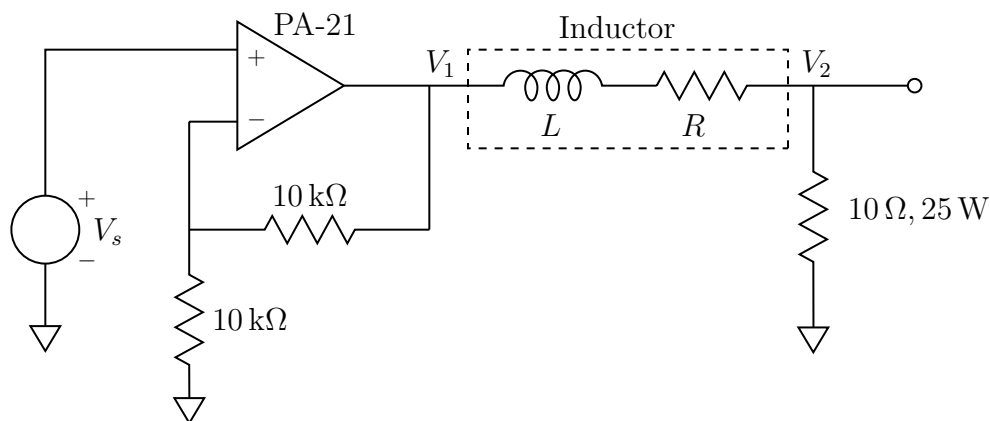

Figure 3: Amplifier with inductive load.
2. **Inductive load, voltage drive:** Now we will use the amplifier to drive an inductive load as shown in Fig. 3. Each station has an inductor which has been constructed from a small power transformer. Please keep each device at its original station. Do not move these around between stations! For the greatest consistency, you may want to use the same station for all your critical tests, but since the inductors are nominally identical, you are free to use other stations and assume the inductors are matched. The purpose of this portion of the lab is to develop an electrical model for the inductor which can be used to design a closed-loop current-controlled system. Specifically, in this section, we would like to measure the transfer
As a start, use the multimeter to measure the coil resistance of your inductor. Also measure the resistance of the 25W power resistor you used in the previous section. These resistances become part of a model for the coil shown in Fig. 3. To complete the model, we need to measure the coil inductance. This can be done by measuring the step response from  $V_1$  to  $V_2$ . The time constant of this response, in combination with the resistances measured earlier yields an estimate of the coil inductance  $L$ . Measure the step response for a 0.1 A step on top of a 0 A bias and on top of a 0.5 A bias. Use the DC offset control on the signal generator to set the bias current level to the desired value. What estimate of  $L$  do you get at the two bias levels?